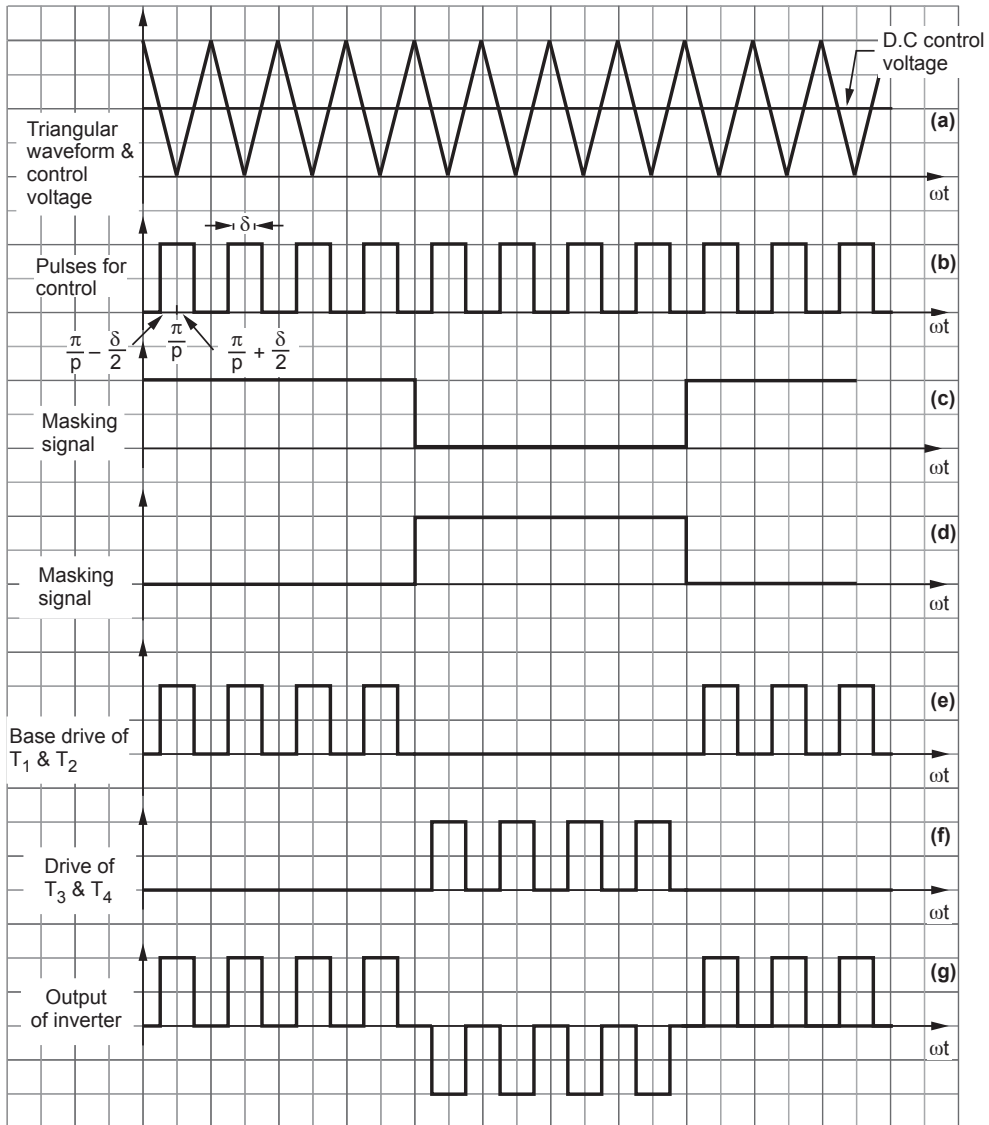

Fig. 3.5.3 Waveforms of multiple pulse width modulation
Fig. 3.5.3 shows the waveforms of multiple pulse width modulation.
- Fig. 3.5.3 (a) shows the carrier signal and the reference signal. The carrier signal is the triangular waveform and reference signal is the DC voltage.
- They are compared and the pulsed waveform of Fig. 3.5.3 (b) is obtained. The width of the pulse can be varied by changing the amplitude of DC reference signal. (See Fig. 3.5.3 on next page).
- Fig. 3.5.3 (c) and (d) shows two 50 Hz out of phase masking square waves. The pulsed waveform of Fig. 3.5.3 (b) is ANDed with these masking signals to obtain base drivers.
- Fig. 3.5.3 (e) shows the base drive of T_1 and T_2 . And Fig. 3.5.3 (f) shows the base drive of T_3 and T_4 .
- Fig. 3.5.3 (g) shows the output waveform of inverter. Observe that there are four pulses in each half cycle.